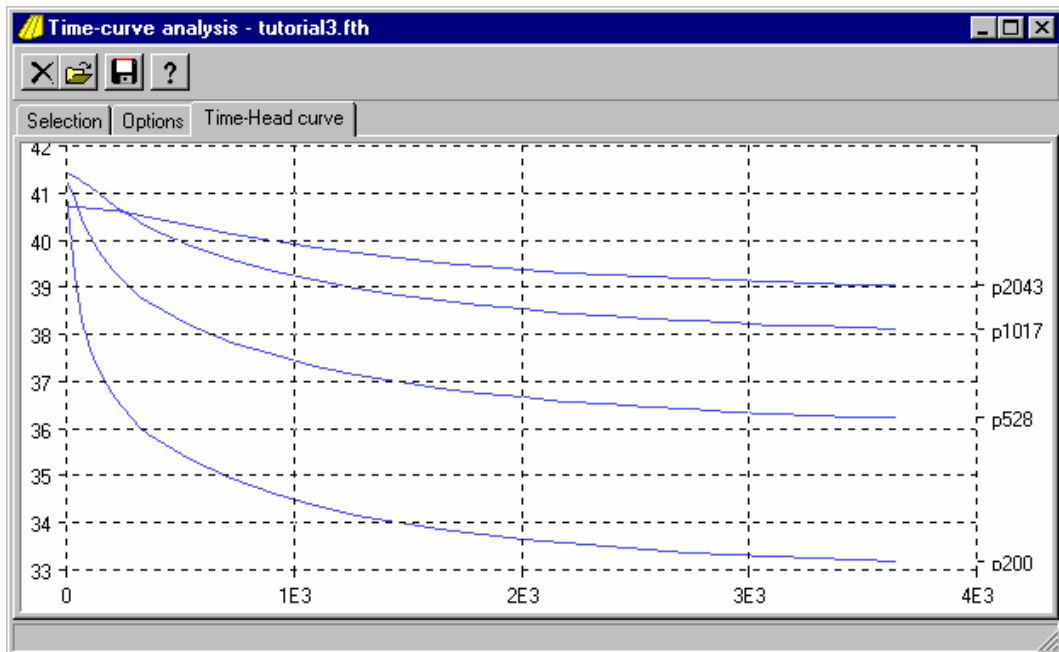

Figure 60: Time-Head curve
- Finally we click the Time-Head curve tab to see the graph of Figure 60: